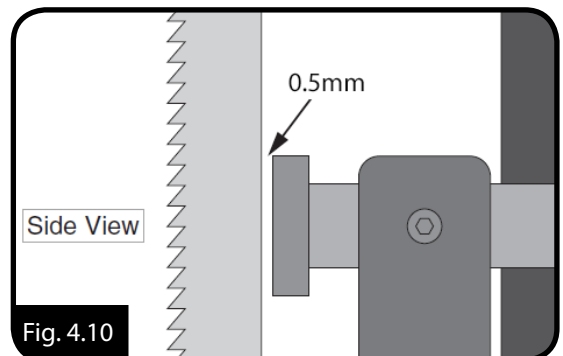

Fig. 4.10
5. Adjust the support bearing 0.5mm away from the back of the blade, as illustrated in Fig. 4.10